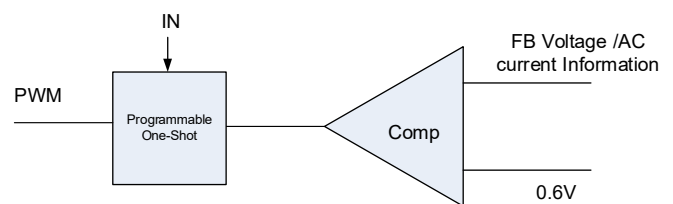

Figure 2. Simplified Control Schematic of AOZ1269AQI
The simplified control schematic is shown in Figure 2. The high-side switch on-time is determined solely by a one-shot whose pulse width can be programmed by one external resistor and is inversely proportional to input voltage (IN). The one-shot is triggered when the internal 0.6V is higher than the combined information of FB voltage and the AC current information of inductor, which is processed and obtained through the sensed lower-side MOSFET current once it turns-on. The added AC current information can help the stability of constant-on time control even with pure ceramic output capacitors, which have very low ESR. The AC current information has no DC offset, which does not cause offset with output load change, which is fundamentally different from other V^2 constant-on time control schemes.